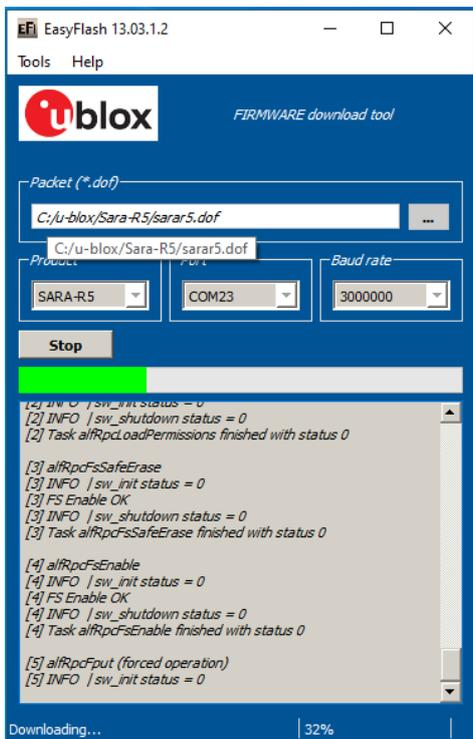
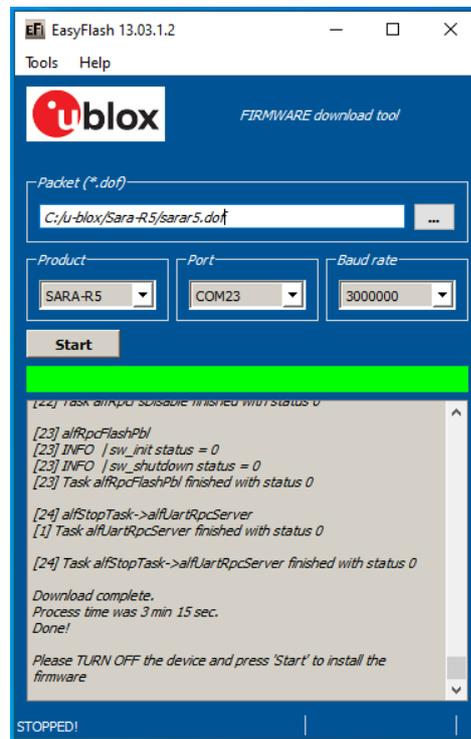

Figure 10: FW update process in progress
Figure 11: FW update process complete and successful
- Flash will start, wait for flash to complete (Figure 10, Figure 11)